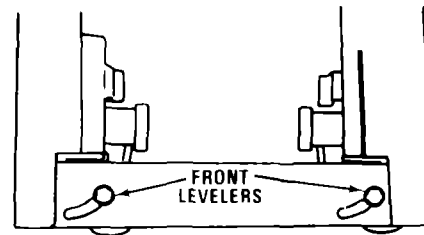

FIGURE 15
- Loosen the screws to the front levelers (do not remove screws). Pivot the levelers to the floor and retighten screws. See Figure 15.